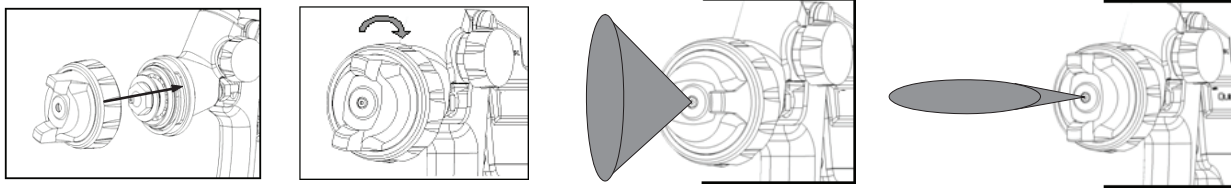

Figure 3 Air Cap Installation and Adjustment
See Figure 3. The position of the atomization air cap and the nozzle determines the orientation of the fan pattern. The air cap retainer has a 1/4 turn bayonet lock for quick change and adjustment.
If you need help to solve a problem with your spray gun, contact your Nordson representative or call the Industrial Coating Systems Customer Support Center at (800) 433-9319. See Figure 3 for service parts.